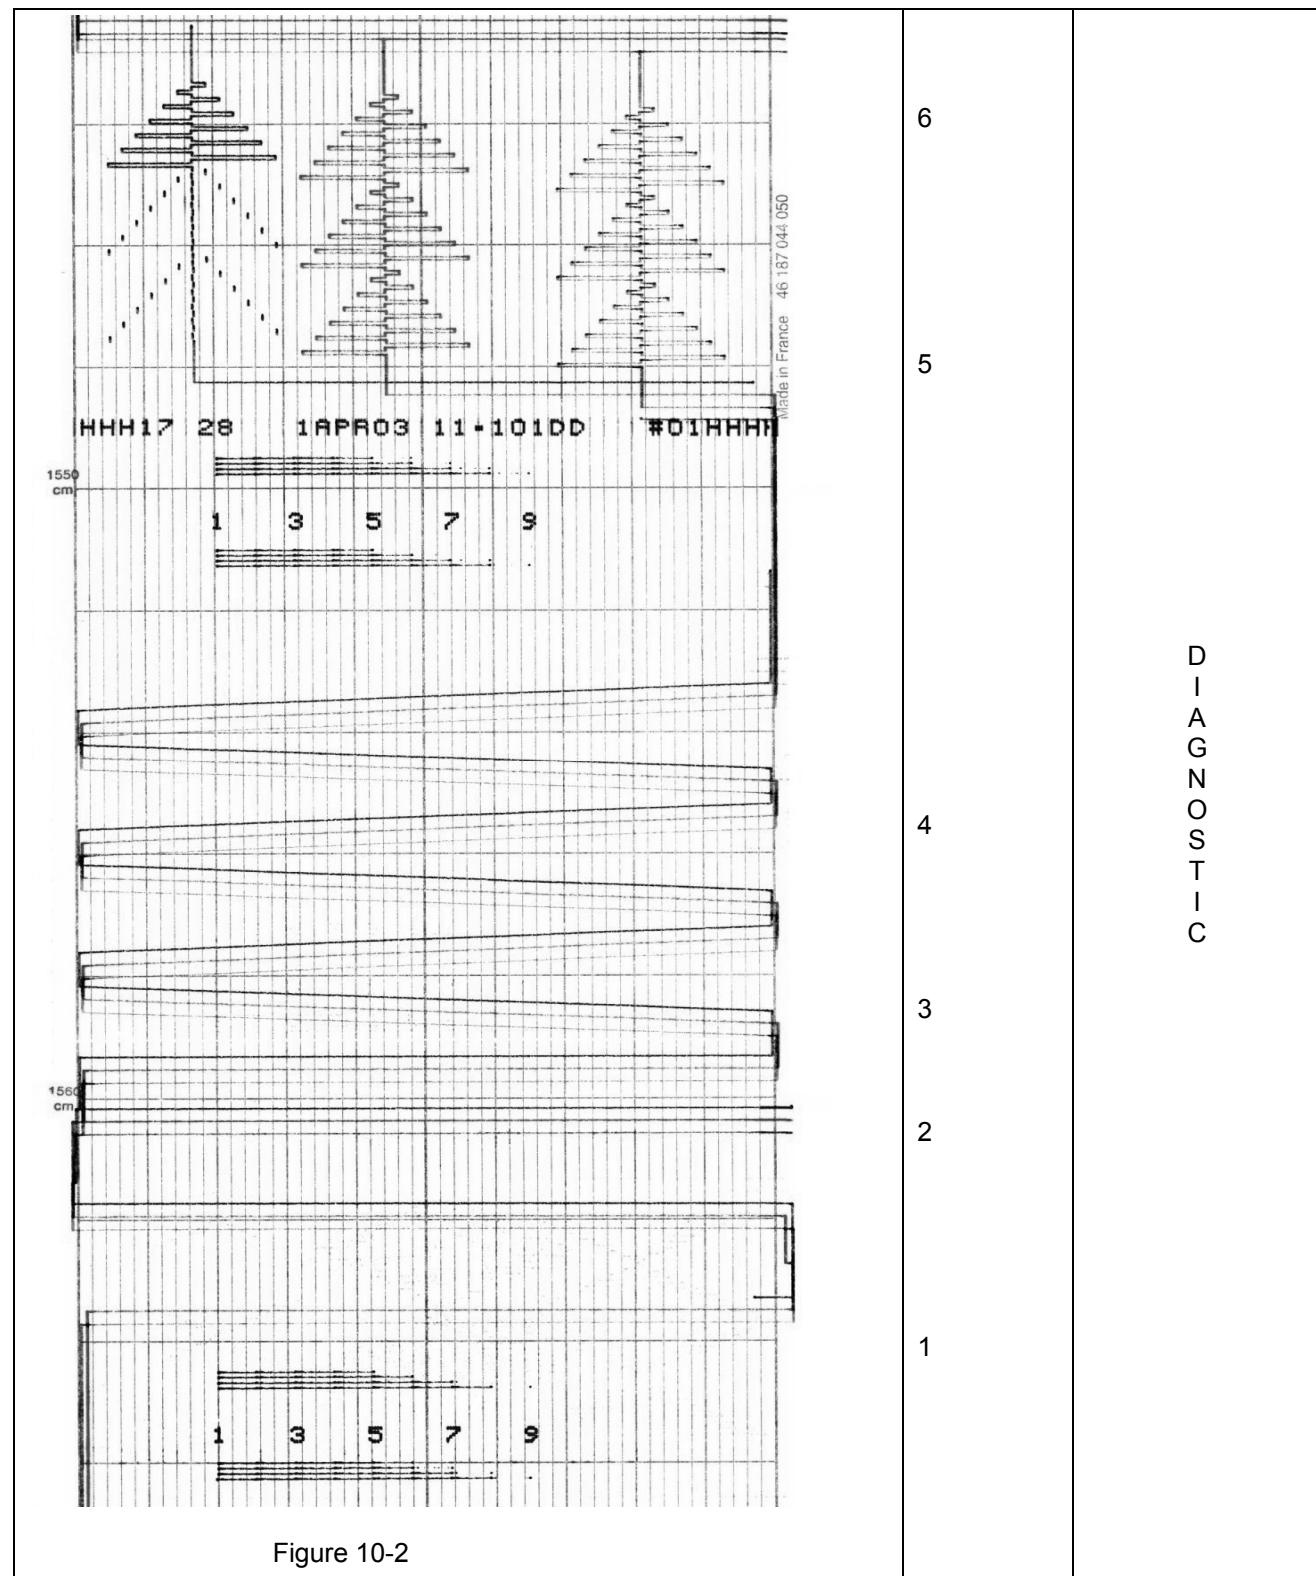

Figure 10-2
- ✓ As soon as the self-test begins, the DIAGNOSTIC starts and the RUNNING IN follows automatically. (See fig. 10-2)
- 9 The figure 10-2 ref. 1 shows the check-test for the height pen 1 adjustment.
- ✓ The figure 10-2 ref. 2 shows the test of mechanical extremes.
- ✓ The figure 10-2 ref. 3 shows the adjustment of the recorder. If the recorder is calibrated, the vertical lines must be written at the same place as the 0 % and the 100 % chart.
- ✓ The figure 10-2 ref. 4 shows the test for chart advance with a diagram written every 20 mm.
- ✓ The figure 10-2 ref. 5 shows the message.
- ✓ The figure 10-2 ref. 6 is composed of 3 identical patterns for the pens 2 and 3 and the graph for pen 1 is discontinuous on the two first patterns.